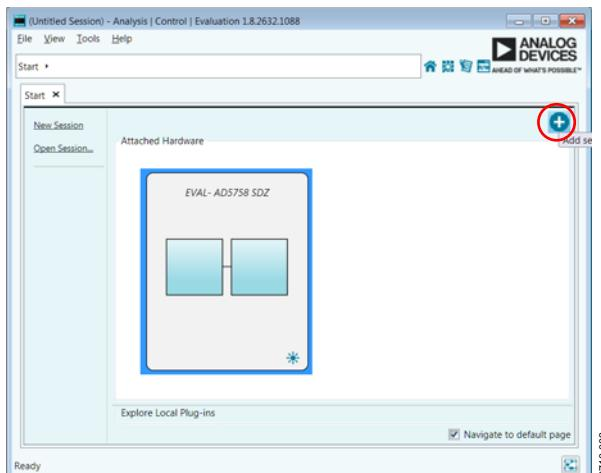
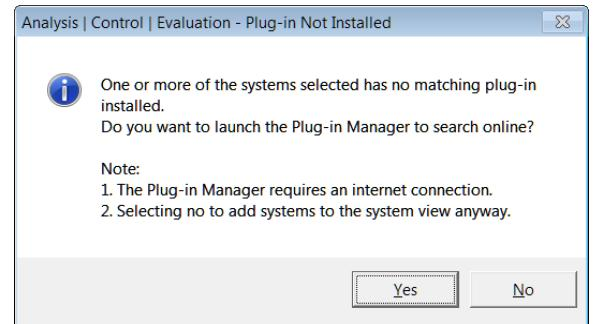
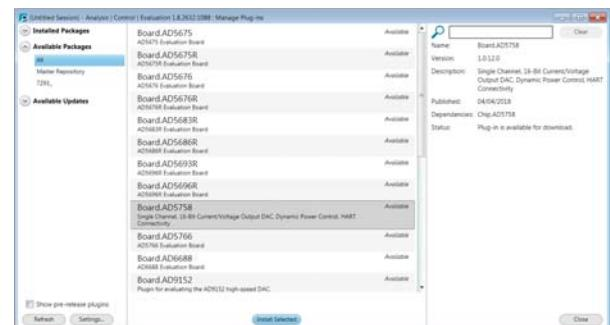
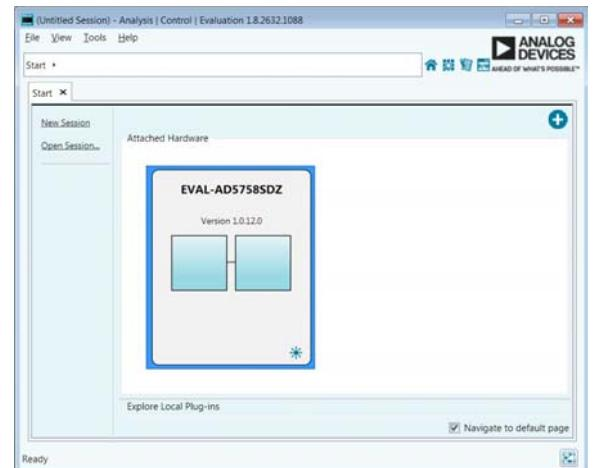

Figure 3. EVAL-AD5758SDZ Plug-In Not Installed
Figure 4. Installing Plug-In Pop-Up Window
Figure 5. Plug-In Manager Window
Figure 6. Attached Hardware Pane with EVAL-AD5758SDZ Connection
5. When setting up the evaluation board for the first time, the EVAL-AD5758SDZ plug-in may need to be installed. If the plug-in appears as shown in Figure 6, go to Step 7. If the plug-in appears as shown in Figure 3, click the button that is circled in red in Figure 3. After clicking this button, the pop-up window shown in Figure 4 appears. Click Yes.
6. A new window appears, as shown in Figure 5. Navigate to the Board.AD5758 plug-in and click Install Selected. The EVAL-AD5758SDZ plug-in installs and is displayed, as shown in Figure 6.